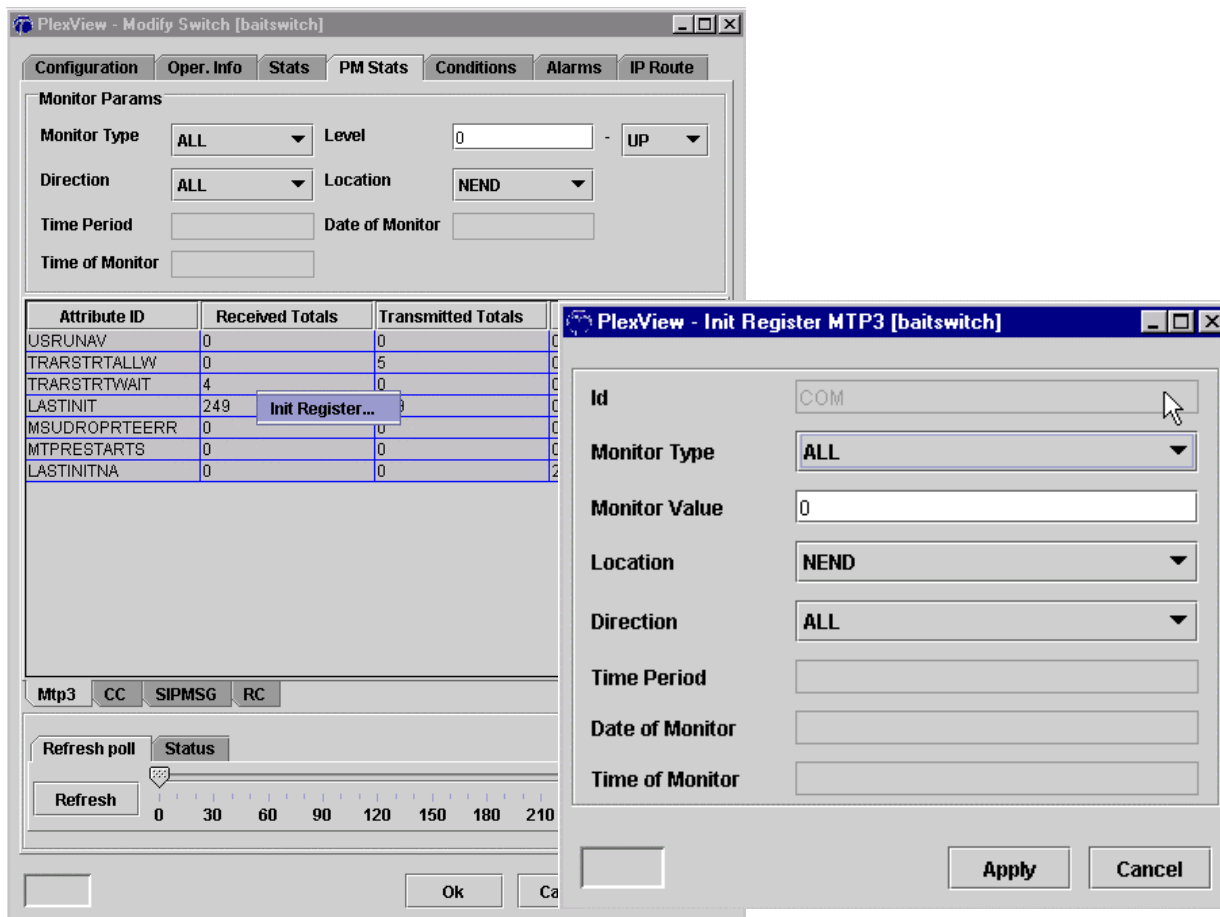

Figure 4. Initialization of Registers
26. Clear or initialize the MTP3 signaling point counters by right-clicking a received status item and then click the *Init Register* block. Make required changes on the Init Register MTP3 screen and then click *Apply*. See Figure 4.